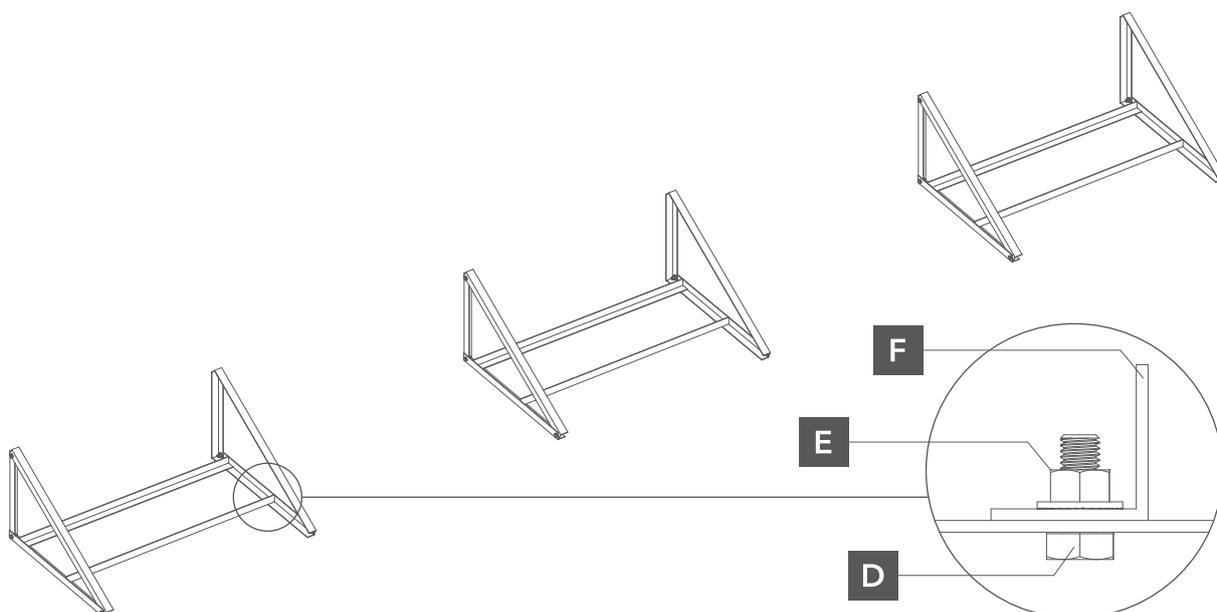

Fig. 3. fastening of the ballast brackets
- 2 The weight carriers are fastened to the base of the mounting triangle with a hexagon head screw DIN933 M10 X 25 and a nut DIN6923 M10 (Fig. 3).